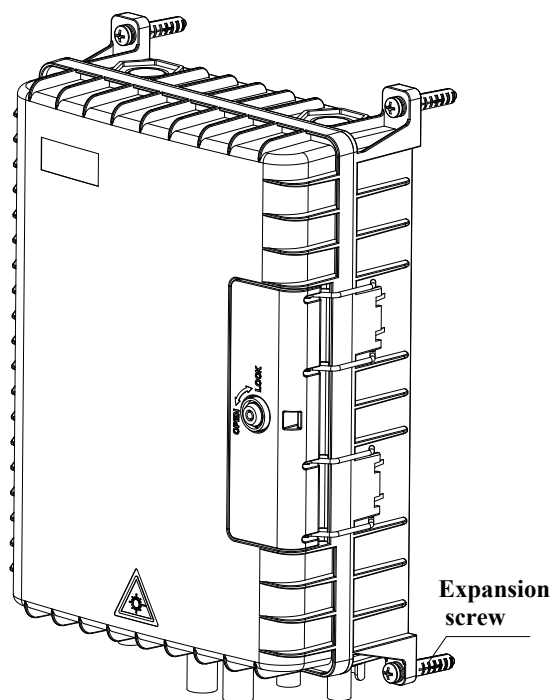

Figure 8
**3.9** Wall mounting: Use the expansion screws to fix it on the wall. See Figure 8